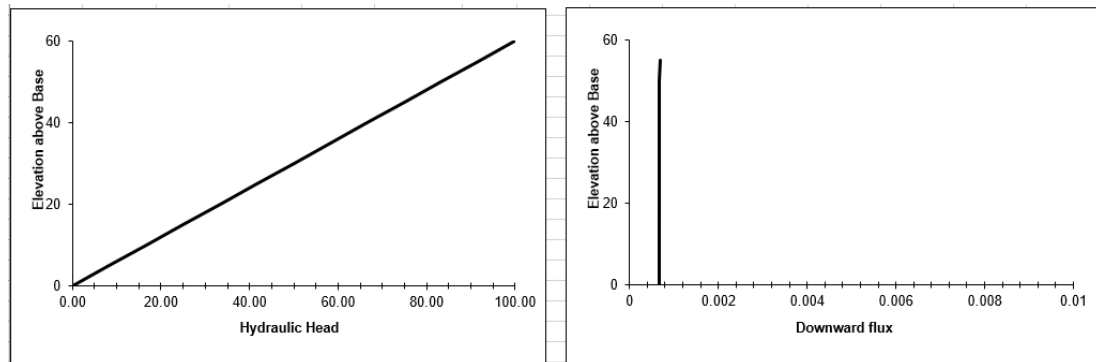

Figure 1 Homogeneous column.  $K=4e-4$
**Answer:** In the steady stage, the change in storage is zero for each grid element in the vertical column. That means the inflow and outflow must be the same and constant at each element as presented in Figure 1 and 2.